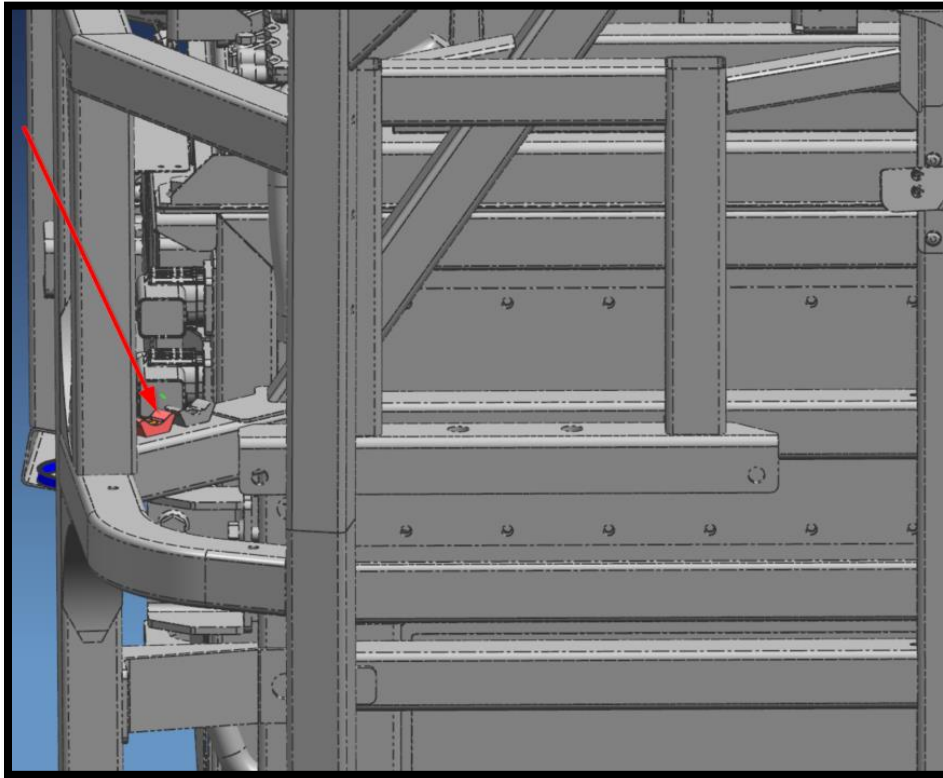
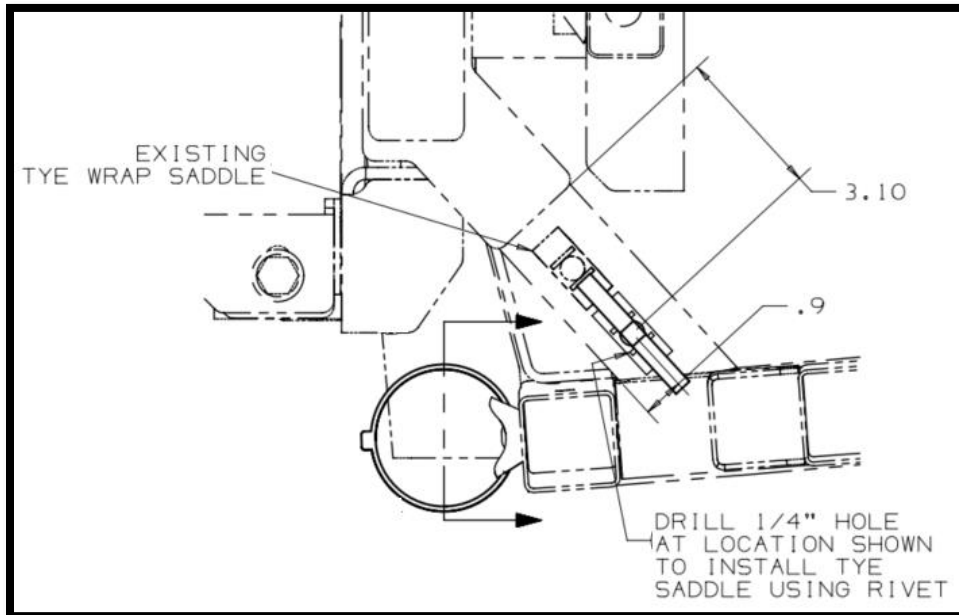

Figure 2 - location of added saddle base (CS, rear of the coach)
Figure 3 - Drilling location of saddle base.
2.4 Install the provided saddle base 19-11-1008 on the location shown in figure 2. Attach the saddle by drilling a 1/4" inch hole at the location shown in figure 3.